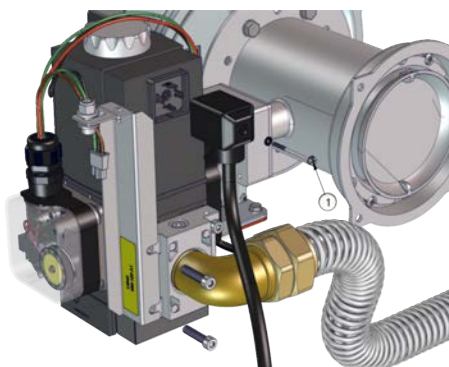

Figure 67 Removing two screws of bracket and Phillips head screw on gas valve inlet side
5. Remove the Phillips head screw (see ① on Figure 67) from the power connector plug, and pull off the electrical connector from the gas valve.
6. Remove the two screws of the bracket supporting the gas valve on the inlet side (see Figure 67).
4. Remove the two screws of the bracket supporting the gas valve on the inlet side (see Figure 67).
6. Pull the black tubing (see ⑧ on 8.0) from the push-to-connect fitting on the gas valve outlet side.
7. Disconnect the three- (3) wire Molex plug from the gas pressure switches.
8. Unscrew the two (2) bolts of the flange to separate the gas valve inlet from the gas line. Keep gasket and bolts for re-assembly. (See ③ on 8.0.)
9. Remove the four 5/16" hex head bolts that attach the gas valve assembly to the mixing device. (See ① on 8.0.) These bolts should be first loosened slightly in a cross sequence to prevent deformation of the mating parts.
11. Remove the four (4) 1/4" hex bolts that connect the mixing device to the air filter box. The gasket should remain attached to the air filter box.
12. Remove the four (4) 10mm hex bolts that attach the fan to the heat exchanger lid. An open-ended wrench or socket is required.
15. Loosen the eight (8) 5mm Allen lid fasteners securing the lid to the heat exchanger. Mark the orientation of the lid onto the heat exchanger with a marker.